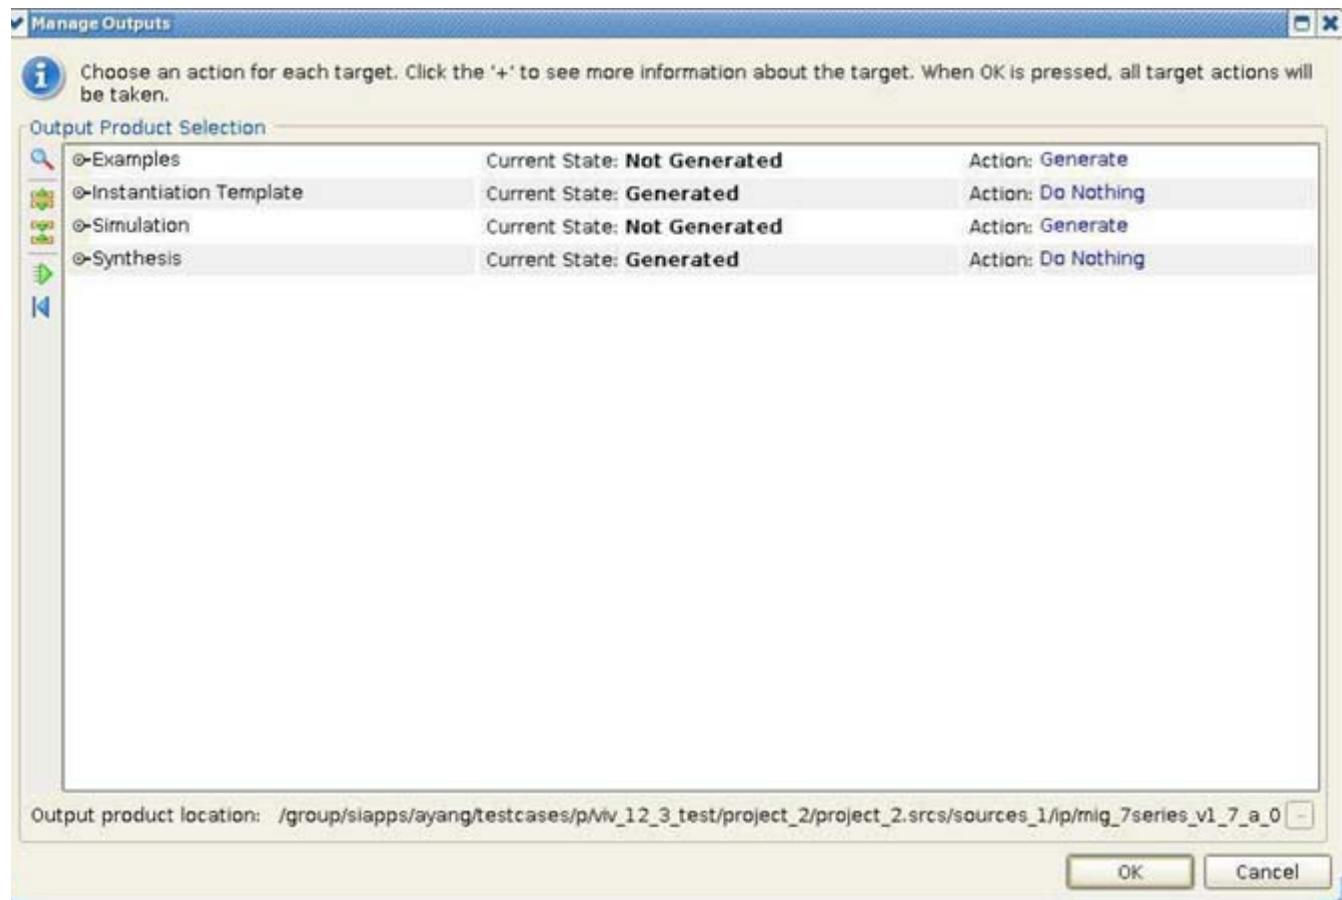

Figure 6-17: Generate Window
17. Clicking the **Generate Output Products** option button brings up the Manage Outputs window (Figure 6-17).